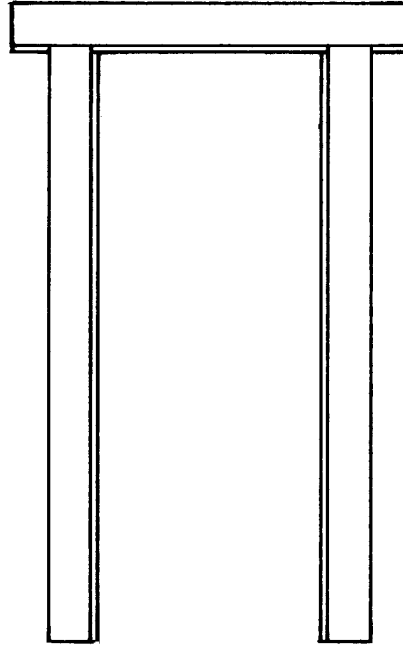

Fig.13
38. Figure 13 shows an external door frame made from 100 mm by 75 mm timber. Indicate on the drawing how the frame is kept square before it is finally fixed in position.